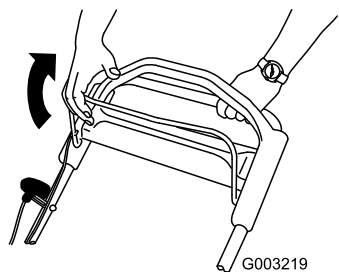

Figure 18
2. Hold the blade control bar against the handle (Figure 18).